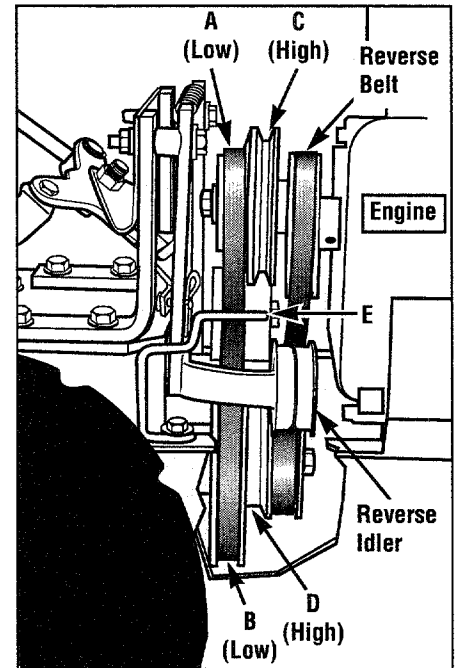

Figure 4-10: Right-side view of engine and transmission pulleys (engine is at right-side of view).
4. From beneath the tiller, move the forward drive belt out of the transmission low speed groove (B, Figure 4-10) and into the high speed groove (C).
5. Pull upward on the belt to remove any slack and slip the belt out of the engine drive pulley low speed groove (A, Figure 4-10) and into the high speed groove (C).
6. Check that the belt is within the forward belt guide (E, Figures 4-10 and 4-11) on the right-side of the unit and is within the forward idler (F, Figure 4-11) on the left-side. Be sure that the belt is situated in the center grooves (C and D, Figure 4-10) of the engine (upper) and transmission (lower) pulleys.
4. From beneath the tiller, move the forward drive belt out of the transmission pulley high speed groove (D, Figure 4-10) and into the low speed groove (B).
5. Pull upward on the belt to remove any slack and slip the belt out of the engine drive pulley high speed groove (C, Figure 4-10) and into the low speed groove (A).
6. Check that the belt is within the forward belt guide (E, Figures 4-10 and 4-11) on the right-side of the unit and is within the forward idler (F, Figure 4-11) on the left-side. Be sure that the belt is situated in the rear grooves (A and B, Figure 4-10) of the engine (upper) and transmission (lower) pulleys.